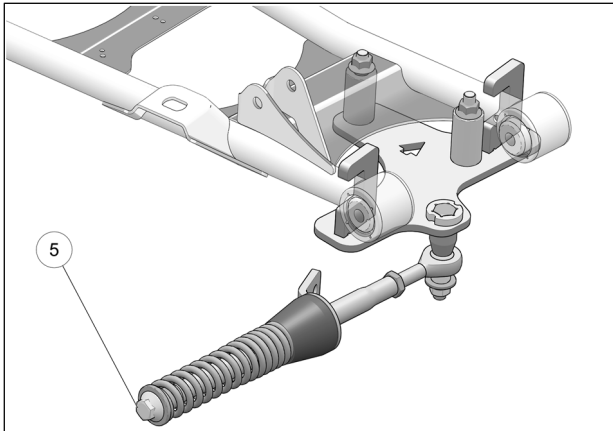

Fig. 11
11. Verify that spring assembly bolt (5) is tightened to the recommended torque specification: 75 N•m [55 lb•ft]. Refer to Fig.11